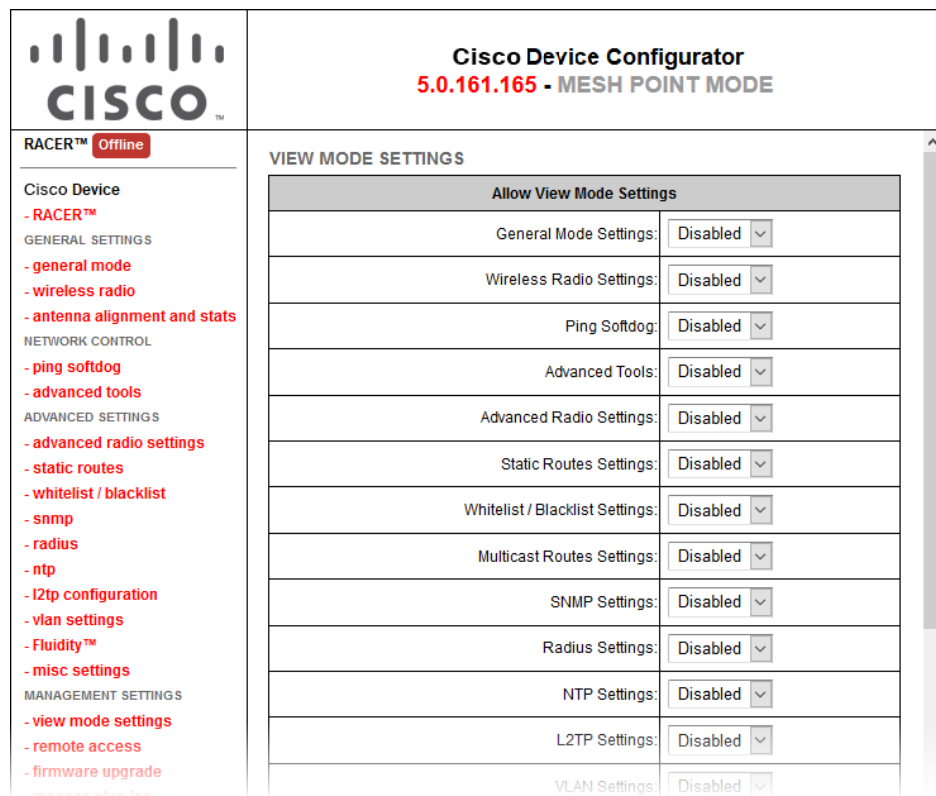

Figure 37. Configurator GUI (VIEW MODE SETTINGS dialog)
2. Click the **-view mode settings** link under **MANAGEMENT SETTINGS** in the left-hand settings menu (Figure 37 (page 85)).